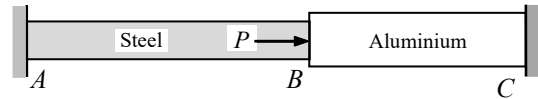

Figure 2
2. A steel rod AB of 20 mm diameter and 1 m length is rigidly connected to an aluminium rod BC of 30 mm diameter and 0.7 m length and loaded as shown in Fig. 2. Given: $E_s = 200$ GPa, $E_a = 70$ GPa and $P = 25$ kN. (a) Find the stresses in steel and aluminium, and (b) the displacement of B . [6]